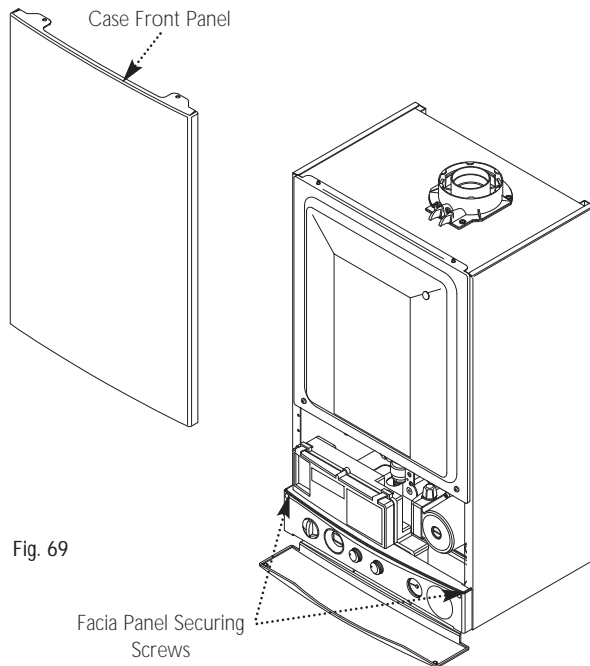

Fig. 69
3. Slacken the screws securing the fascia panel. Lift the outercase panel so that its securing tabs are clear of the fascia. Remove the panel, allowing the fascia to hinge down (Fig. 69).